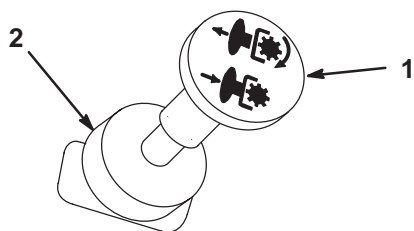

Figure 5
3. Move the PTO (power take off) to Off (Fig. 5).
2. Move the PTO to Off (Fig. 5).